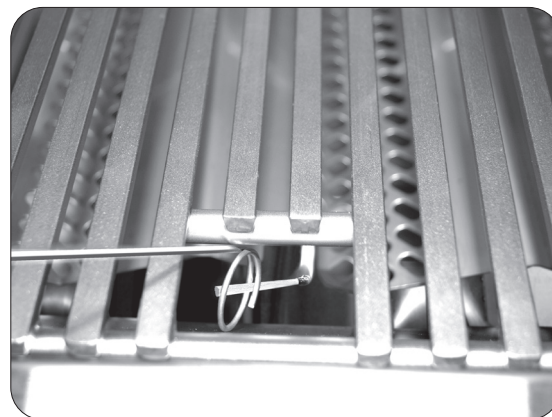

Fig. 29-2 - Manual lighting
**CAUTION:** Always wait five (5) minutes for gas to clear after any unsuccessful lighting attempt.
2. Insert either a burning long-barrel butane lighter, a burning long-stem match, or a burning match held by a wire extension holder through the cooking grid opening to the top of the burner (Fig. 29-2).
4. If the burner does not light within five (5) seconds of turning the control knob, **immediately depress the knob and turn the valve to OFF**. **WAIT FIVE (5) MINUTES** before repeating steps 2 through 4 of the **MANUAL LIGHTING** instructions.